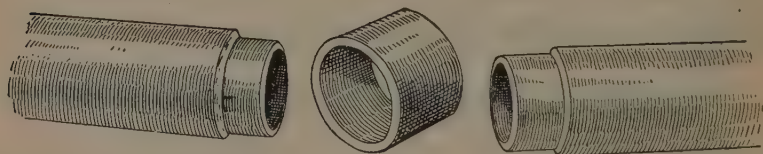

Fig. 985.--Sleeve joint type of fibre. Both the socket type (fig. 984), and the sleeve type here shown are easily aligned without the use of a mandrel.
**Ans.** The socket joint type, as shown in fig. 984, the sleeve type, fig. 985, and the screw joint type, fig. 986.